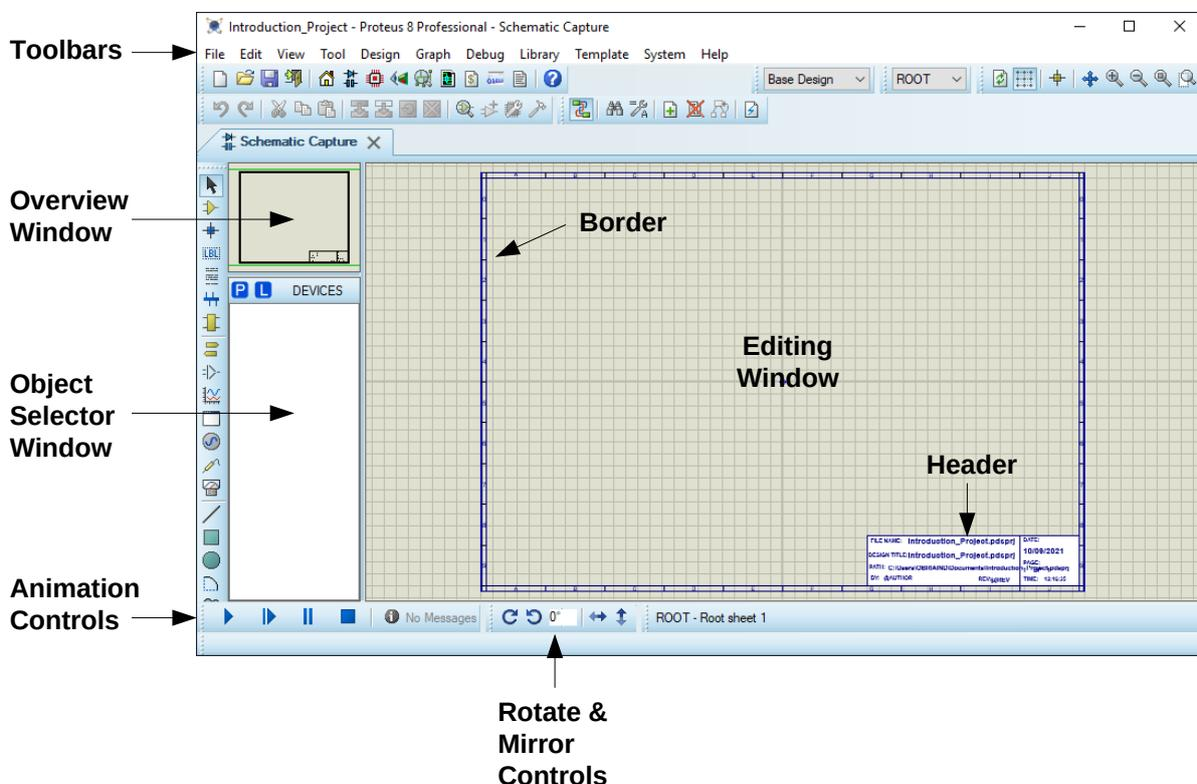

Figure 1: User interface and Screen Layout
2) User interface & screen layout: The Proteus ISIS screen contains the following areas - the *Editing Window*, the *Overview Window*, the *object selector*, the *toolbars* and the *pull down menus* as shown in Figure 1: